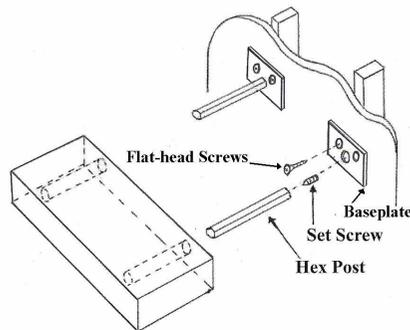

Figure 1
2) Hold a baseplate centered over one of the marks, orienting it as shown in Figure 1. Drill a 1/8" pilot hole 1-1/4" to 1-1/2" deep for only one of the two mounting holes. Using this pilot hole, secure the baseplate using a #8 x 1-1/2" (or longer) flat-head screw. Tighten the screw so the baseplate is just free from rotating.